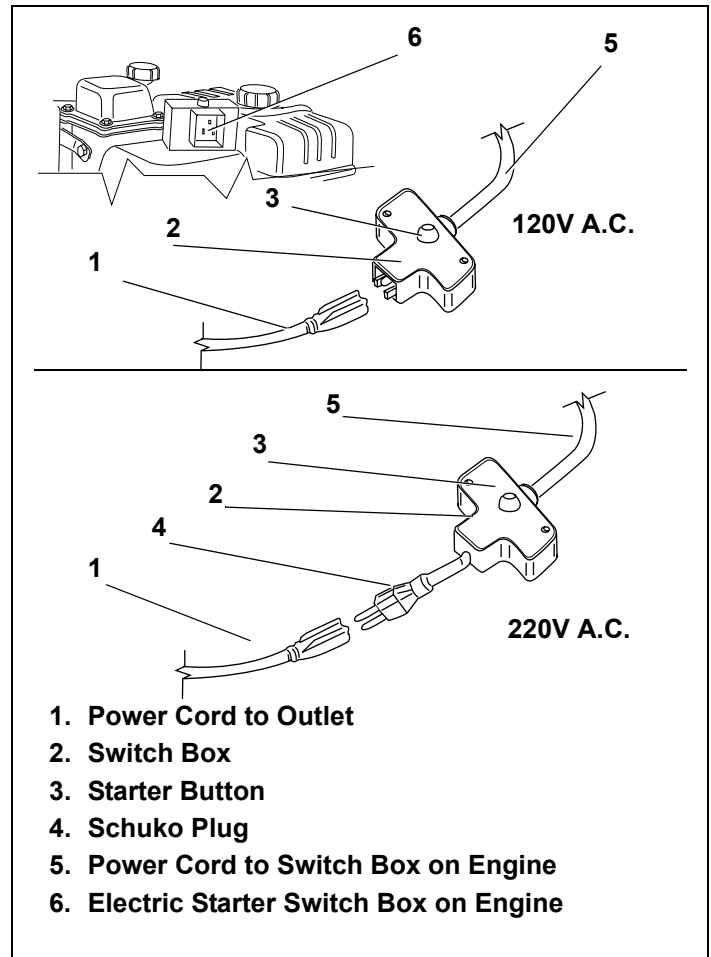

Figure 20. Electric Starter Connections
When connecting power cord, always connect power cord to switch box on engine first; then into outlet. See Figure 20.
3. Connect power cord to switch box on engine. See Figure 20.
- a. Release starter button or ignition switch key. See Figure 20 on page 10. Afterward, continue reading instructions below.
When disconnecting power cord, always disconnect power cord from outlet first; then disconnect power cord from switch box on engine. See Figure 20 on page 10. Afterward, continue reading instructions below.
13. Disconnect power cord from outlet. See Figure 20 on page 10. Afterward, continue reading instructions below.
14. Disconnect power cord from switch box on engine. See Figure 20 on page 10. Afterward, continue reading instructions below.